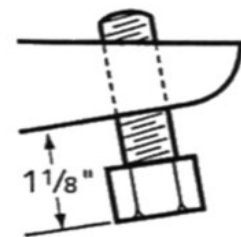

FIG. 3
- t) Initial adjustment for torsion bar is to tighten adjustment bolts until approximately $1\frac{1}{8}$ " remains out of adjustment nut. Both sides should be equal height. (see fig. 3)